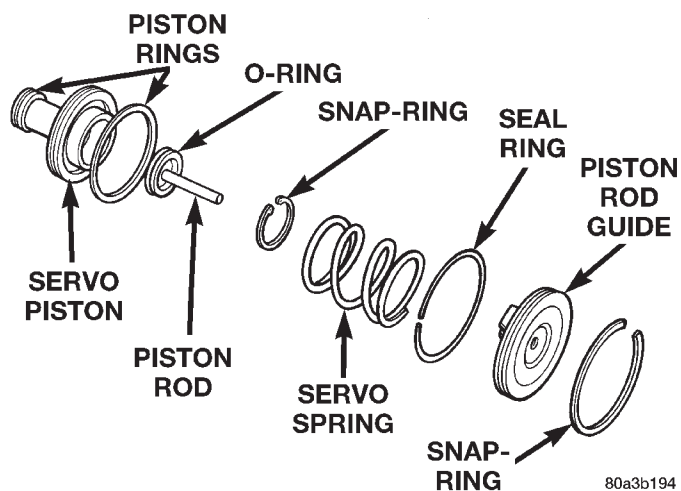

Fig. 116 Front Servo
(1) Remove seal ring from rod guide (Fig. 116).
(2) Remove small snap ring from servo piston rod. Then remove piston rod, spring and washer from piston.
(1) Lubricate new O-ring and seal rings with petroleum jelly and install them on piston, guide and rod.
(2) Install rod in piston. Install spring and washer on rod. Compress spring and install snap ring (Fig. 116).
(3) Set servo components aside for installation during transmission reassembly.